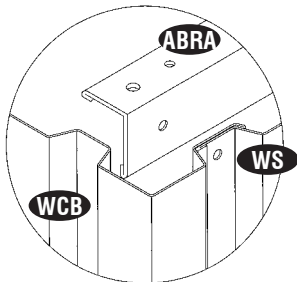

Fig.1
24. Place the top angle back right (ABRA) on top of the wall panel from inside. See the position in fig.1. Line up the holes with wall panel use (S1) screws with washers to secure. See fig 2.